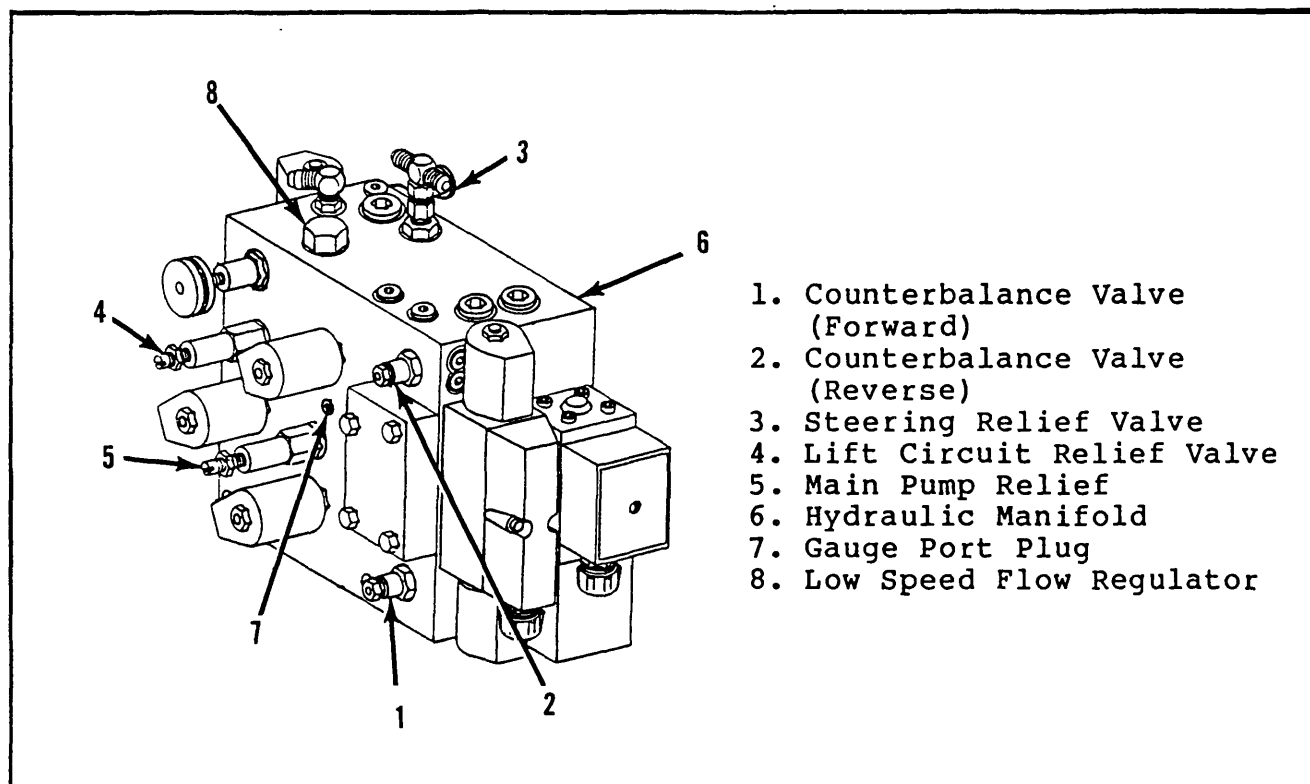

Figure 5-7. Hydraulic Pressure Adjustment
5-15. SETTING HYDRAULIC PRESSURES (Figure 5-7).
a. Main Pump Relief Valve (5, Figure 5-7).
(1) Operate the hydraulic system 10-15 minutes to warm the oil.
(2) Remove the plug (7, Figure 5-7) in the Gauge Port and install a 0-3000 psi pressure gauge.
(3) Disconnect one of the quick-disconnect connectors in the Lift Limit Switch wires (located by terminal block).
(4) Loosen the locknut on the Main Pump Relief Valve (5, Figure 5-7).
(5) Position the Chassis Lift Switch to UP position and hold it there.
(6) Slowly screw the adjusting screw in to increase the pressure to 2950 psi, then tighten the locknut.
(7) Reconnect the Lift Limit Switch wire.
(8) Remove pressure gauge and install plug (7, Figure 5-7).
b. Lift Circuit Relief Valve (4, Figure 5-7).
(1) Remove the Gauge Port Plug (7, Figure 5-7) and install an 0-3000 psi pressure gauge or if the Main Relief Valve has just been adjusted leave the gauge connected.
(2) Operate the hydraulic system 10 to 15 minutes to warm the hydraulic oil
(3) Position a 550 lb. load centered on the platform. (Load may vary depending on option. Check nameplate for load.)
(4) Position the Mode Switch to LIFT.
(5) Position the Chassis Lift Switch to UP, hold it there and observe the pressure gauge.
(6) Loosen the locknut on the Lift Circuit Relief Valve (4) and screw the adjusting screw OUT to lower the pressure setting to 2000 psi.
(8) Operate lift system stop and starting to ensure proper function.
(9) Remove the pressure gauge from the gauge port and install plug.
(10) Remove load and check for leaks.
c. Steering Relief Valve (3, Figure 5-7).
(1) Disconnect the hydraulic hose on the left side of the steering cylinder and install an 0-3000 psi pressure gauge.
(2) Operate the hydraulic system 10 to 15 minutes to warm the hydraulic oil.
(3) Turn the Mode Switch to **DRIVE** position.
(4) Position the Steer Switch to **LEFT** and hold it there. Observe the pressure gauge.
(5) The gauge should read 1950 psi. If not, loosen the locknut on the Steering Relief Valve (3, Figure 5-7).
(6) Back the adjustment screw **OUT** several turns and then slowly turn the screw **IN** until the appropriate pressure is reached. Tighten locknut.
(7) Release the Steering Switch and remove the gauge from the steering hose.
(8) Reconnect the Steering Cylinder Hose and operate the steering system to expel trapped air and check for leaks.
d. Counterbalance Valve (1,2, Figure 5-7).